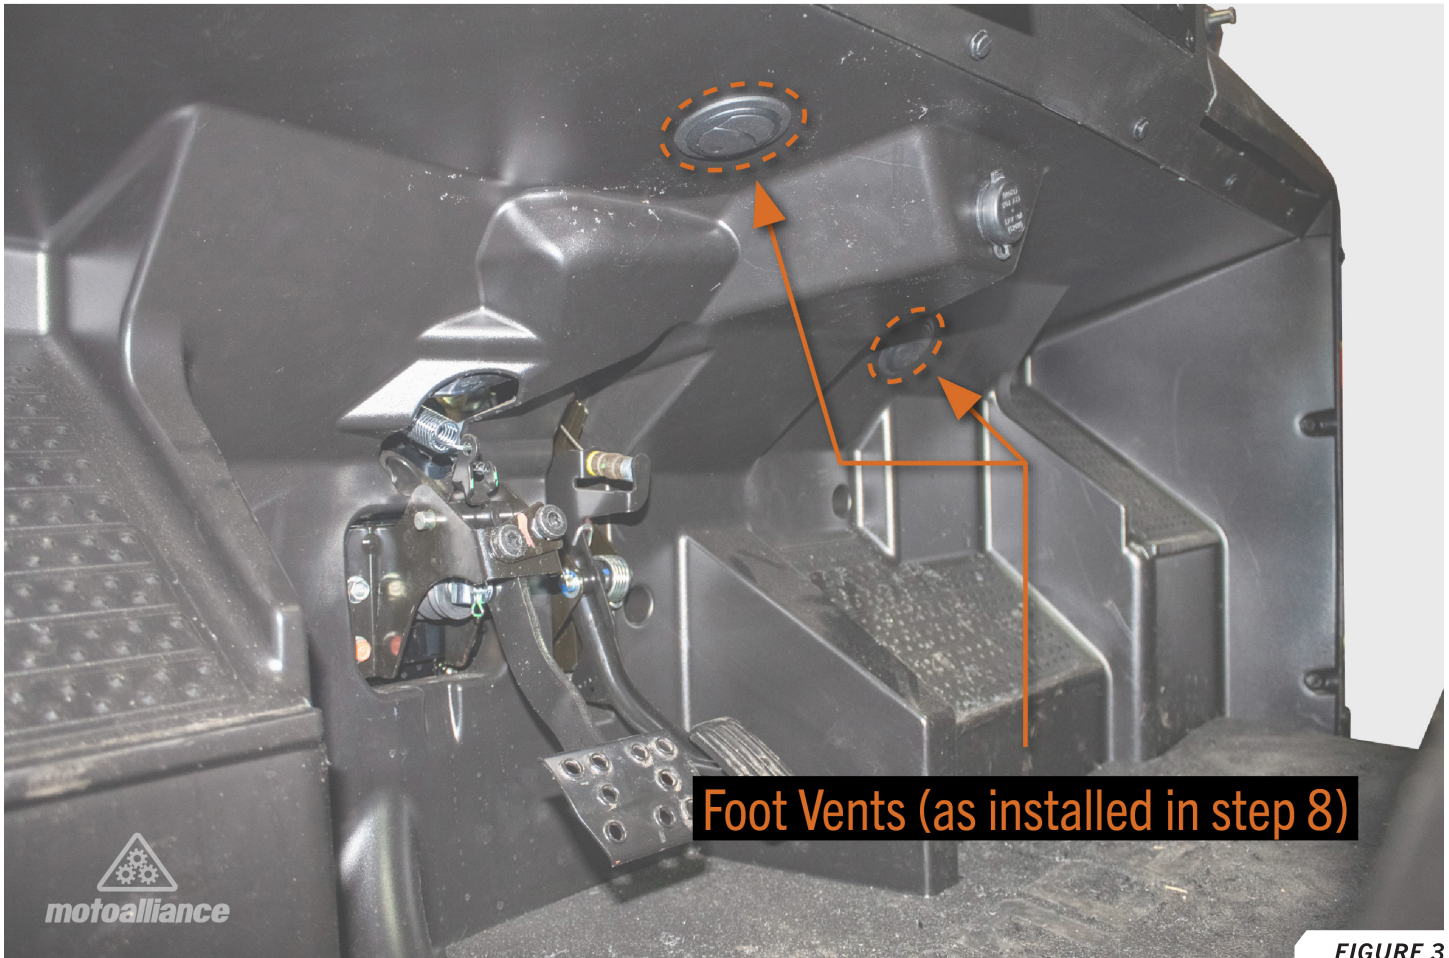

FIGURE 3
7. Mark the center location for the two foot vents on the underside of the dash. **FIGURE 3**
8. Use the 2" hole saw and drill through the panel to make holes for each of the foot vents. Clean up any burs from around the holes, then insert the two vents. **FIGURE 3**